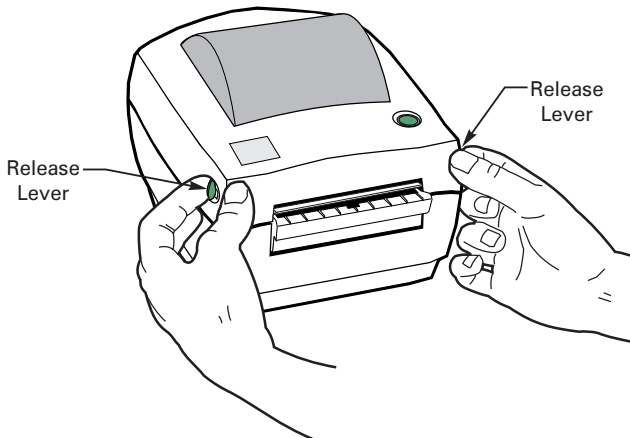

Figure 8
1. Unlatch the top cover by pulling the two green release levers toward you (refer to Figure 8). Then, lift the top cover to expose the media compartment.